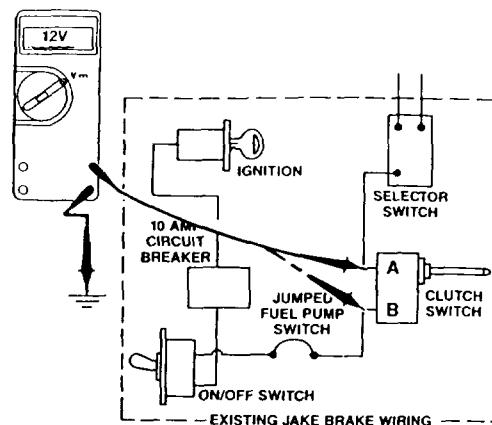

FIG. 4
**Correction:** Check that connections are tight on the clutch switch terminals. Check that there is no corrosion on connectors. Clean or replace as required. Check the clutch switch. With ignition ON and the Jacobs ON/OFF switch ON, measure the voltage at "A" (Fig. 4). VOM should read +12.5 VDC. At position "B" with switch closed, VOM should measure +12.5 VDC; with switch open, 0 VDC at position "B".